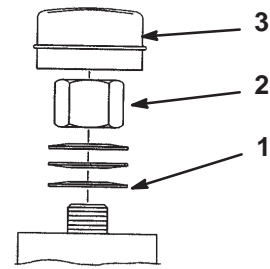

Figure 46
2. Remove dust cap from caster and tighten lock nut (Fig. 46).
3. Tighten until spring washers are flat and then back off a 1/4 turn to properly set the pre-load on the bearings (Fig. 46).
Important Make sure spring washers are installed correctly as shown in figure 46.